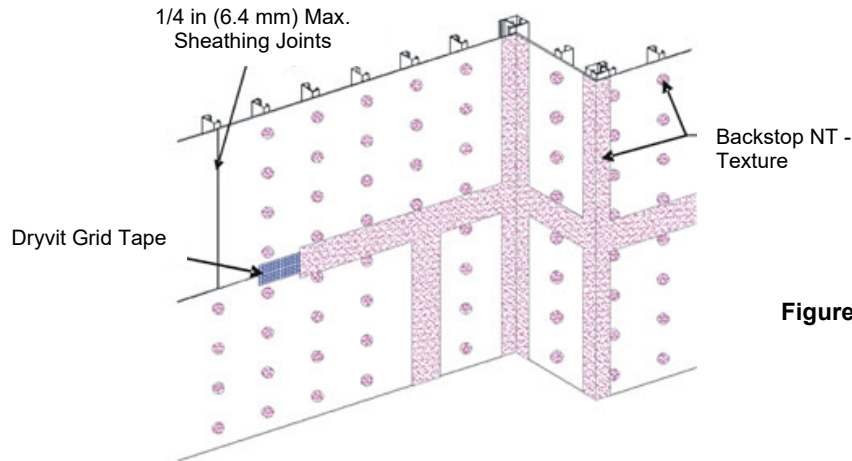

Figure 16
- a. Apply Dryvit Grid Tape as described in Section VI.A.1 above. Mix the Backstop NT - Texture material as described in Section III.B.2. Using a stainless steel trowel or spatula, apply a layer of Backstop NT - Texture over the Dryvit Grid Tape and spot all fastener heads – Figure 16. **NOTE: Dryvit Grid Tape is not necessary over fastener heads.**